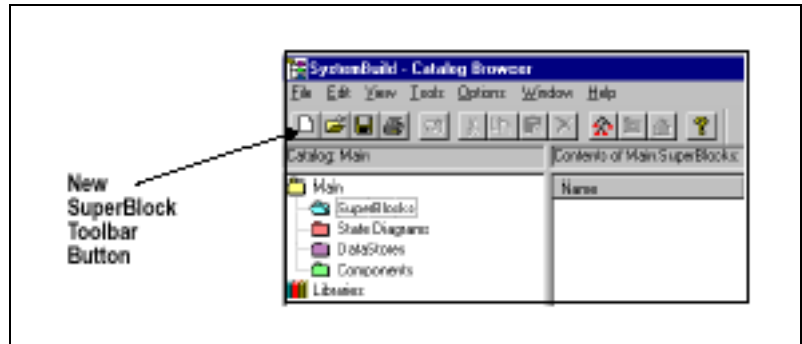

Figure 4-4. Creating a New SuperBlock
1. Select **File»New»SuperBlock** or click the **New SuperBlock** toolbar button in the Catalog Browser to create a new SuperBlock (see Figure 4-4).